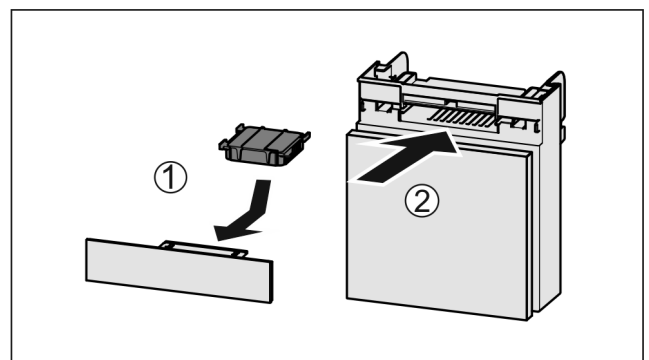

Fig. 78
- ▶ Insert the carbon filter as shown in the diagram Fig. 78 (1).
- ▶ Push the compartment in Fig. 78 (2).